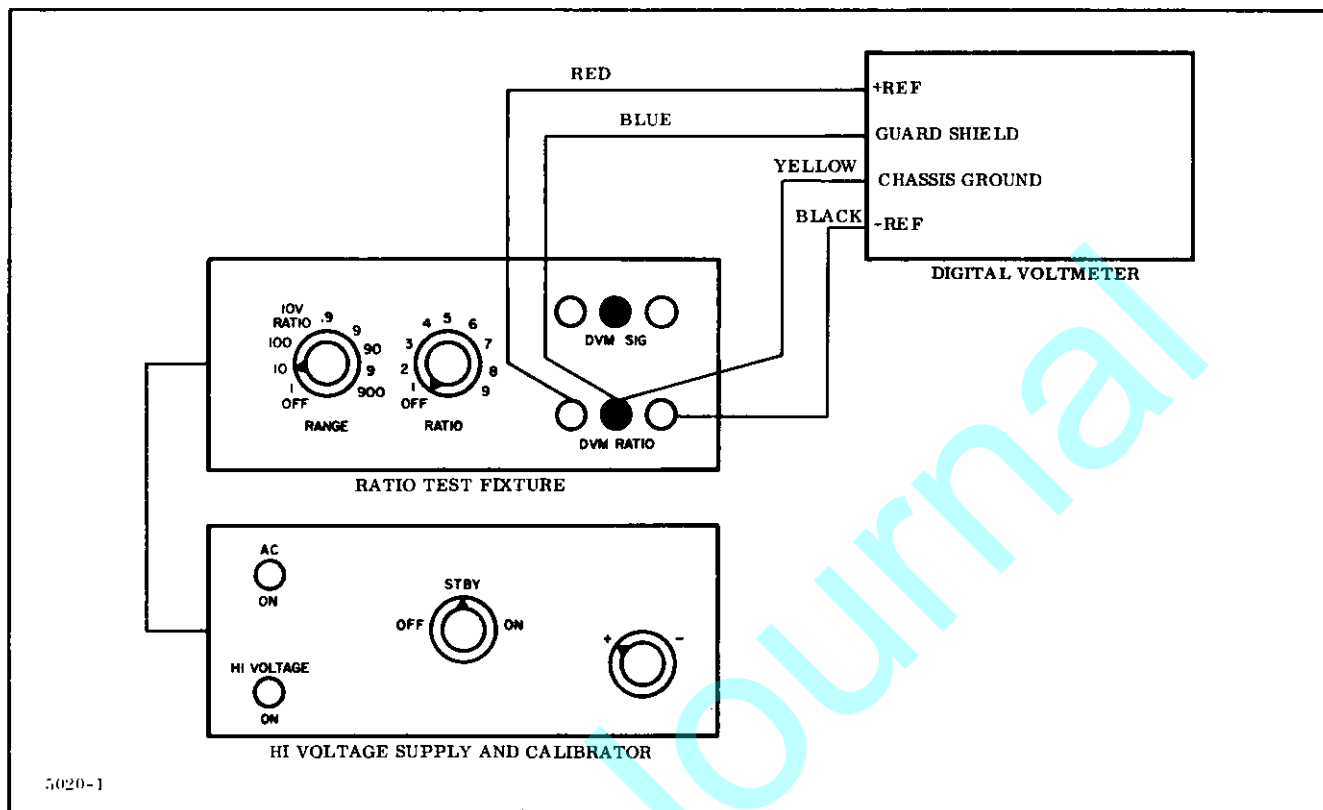

Figure 4-5. Ratio Calibration Cable Connections
1. Connect external reference leads to NLS Model 3022 Ratio Test Fixture as shown in Figure 4-5.